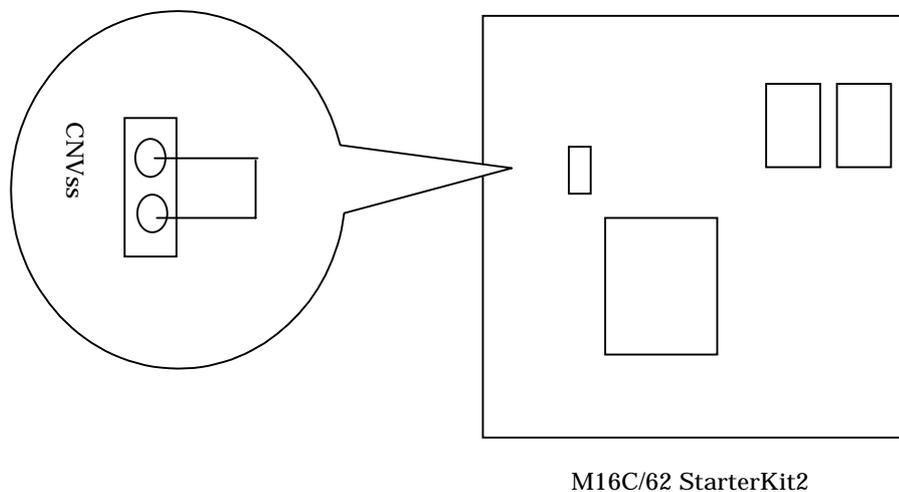

Figure 7-1 Setting M16C/62 StarterKit2
- (1) Make the terminal that CNVss and silk are being printed on the circuit board of M16C/62 StarterKit2 a "H" level. (Like a Figure 7-1, Short)
- (2) Start attached flash memory writing S/W (FlashStart). At this time, a communication error occurs if the setup of (1) isn't being done.
- (3) It is thrown, and a Reset button is pushed to M16C/62 StarterKit2(the power supply).
- (4) Monitor Program is written by using FlashStart.1)